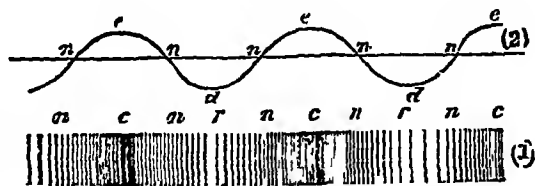

FIG 49
Each curve in *c* is similar to *A*. They are arranged so that each dot produced with the slit moves a little later in its path than the preceding dot. The wave of compression and rarefaction will be seen travelling across the slit. Compare the parts of greatest compression with crests of waves, the parts of rarefaction with troughs of waves (fig 49). The wave-length is the distance from one compression to the next (from *c* to *c* (1)), or from one rarefaction to the next (from *r* to *r* (1)), or from one particle to the next particle in a similar position, and moving in the same direction, and as in the case of vertical waves, the wave will move one wave